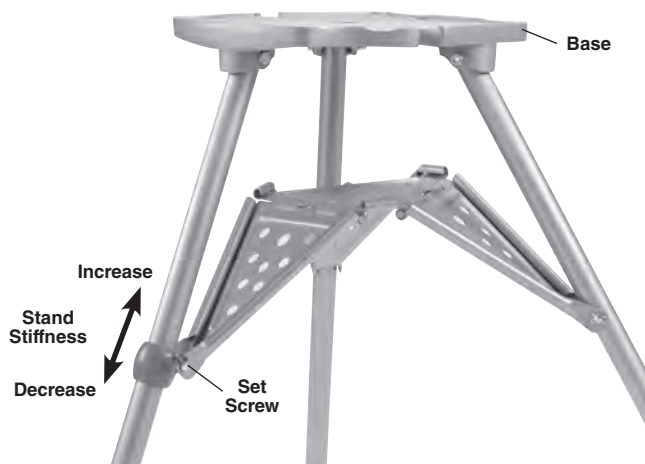

Figure 5 – Adjusting Tray Support
- b. Loosen the set screw on the rear tray support (see Figure 5).